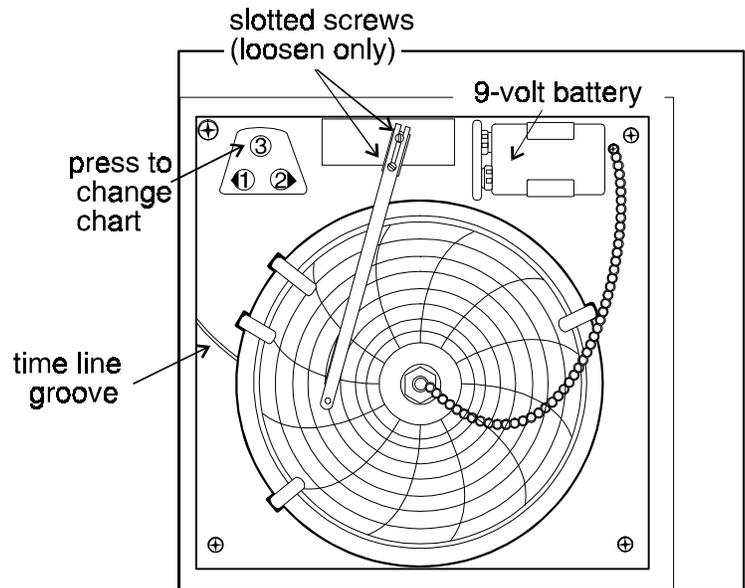

Figure 2-3
To prepare the recorder for operation, open the glass door and snap the connector onto the 9-volt battery as shown in Figure 2-3. If the unit is operating, the green LED lights steady. If the unit is not turned on, the LED blinks.
1. Press the Change Chart button (#3) and hold it for 1 second until the pen begins to move to the left of the chart. See Figure 2-3.